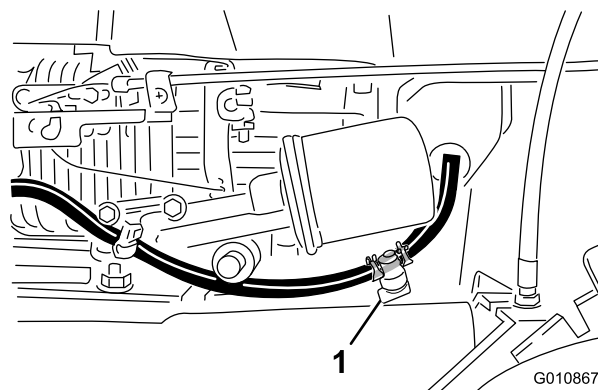

Figure 11
2. Open the fuel valve (Figure 11).